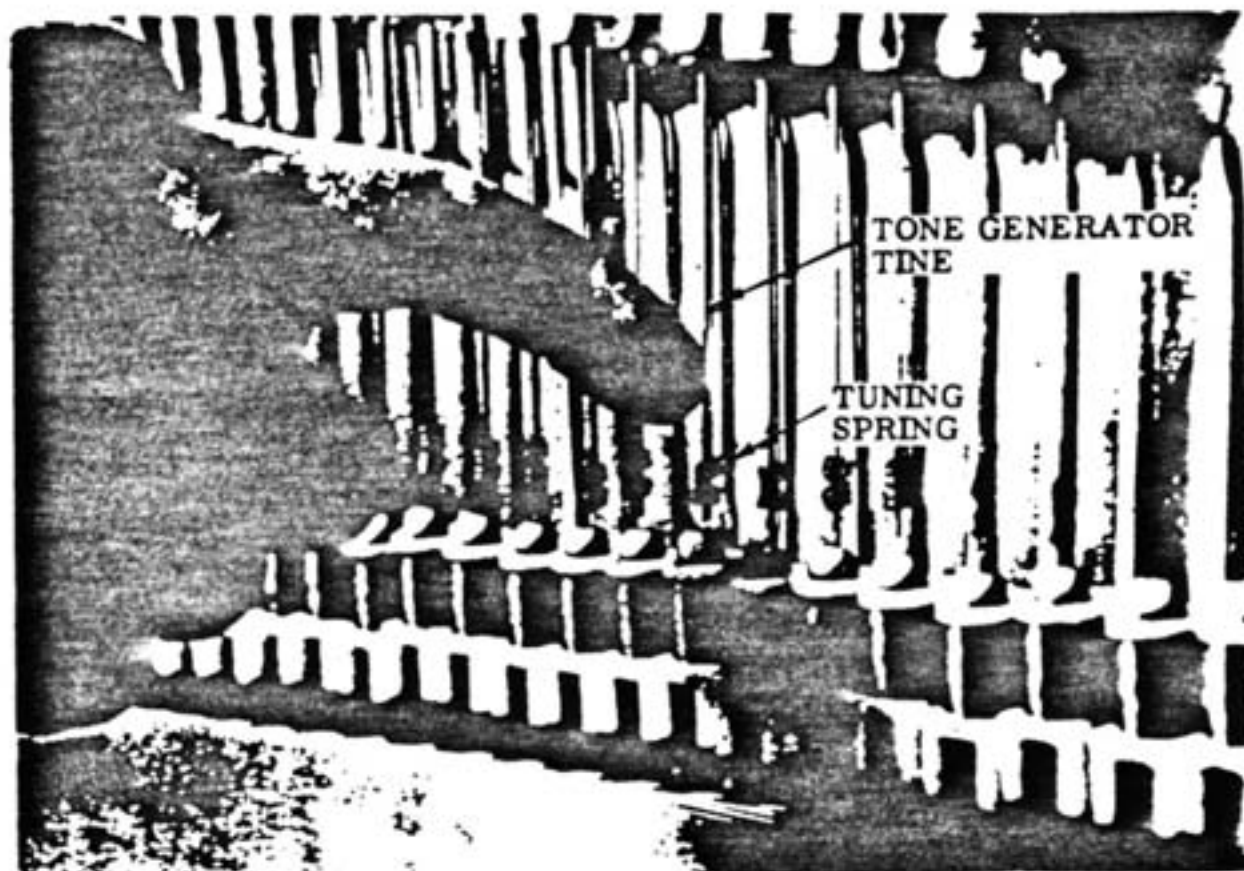

FIGURE 27
4. Turn up the volume and pluck the Tines with the fingers. Set the desired pitches by manipulating the little Tuning Springs (Figure 27). Set your temperament in the same manner employed with a string piano.